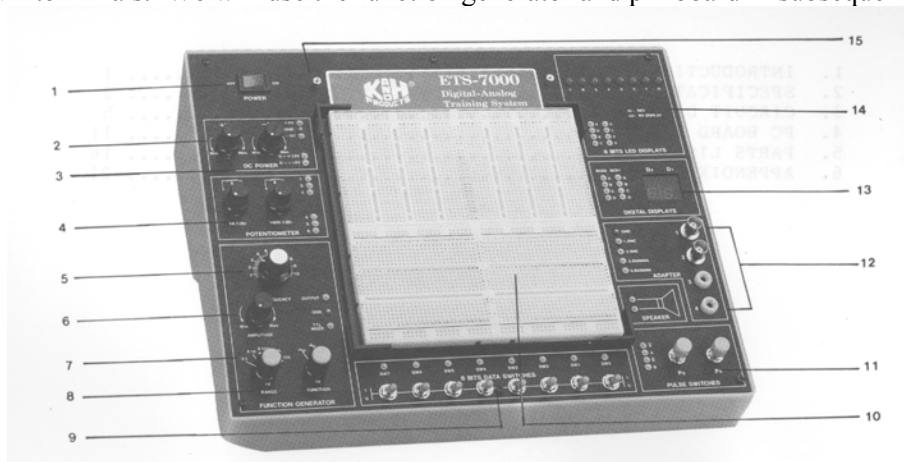

Figure 2.3.1: ETS-7000 Training and Prototyping Board (the *trainer*).
**1. The Trainer Board.** Figure 2.3.1 shows the trainer (cost = \$360) on which you'll be constructing most of your circuits. The items you'll become most familiar with are the pin board (10), and the FUNCTION GENERATOR (5 THROUGH 8). The function generator can produce three waveforms: sinusoid, triangle, and square. Frequency is specified by first selecting a range (7), then finely adjusting the frequency with knob (5). The amplitude of the signal is adjusted using (6). The signal is a varying voltage difference between the OUTPUT and GND terminals. We will use the function generator and pin board in subsequent activities.